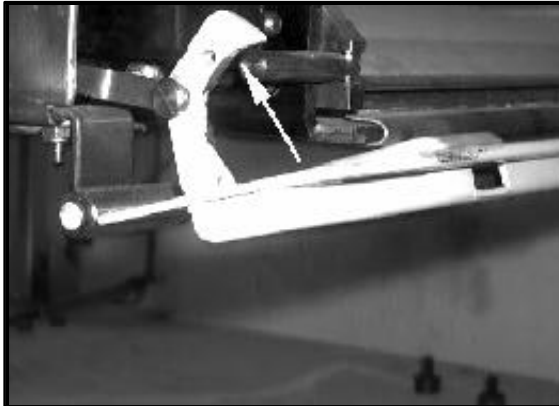

FIGURE 4-2: RAMP PINS
- a. Refer to **Figure 4-2**. Deploy ramp about three inches in order to disengage ramp pins from door hooks.